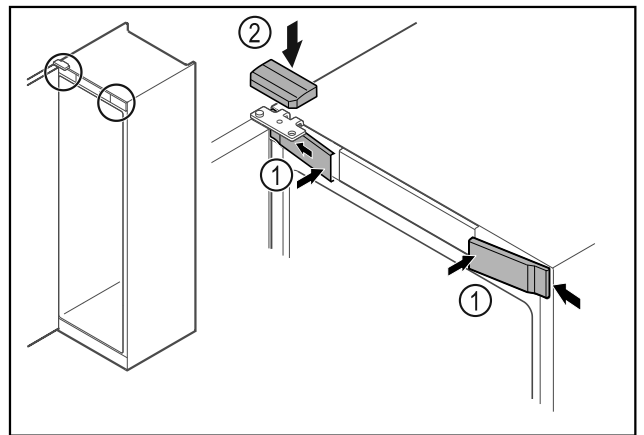

Fig. 67
- ▶ Hook in the front covers Fig. 67 (1) on the side and snap them into place.
- ▶ Snap on the top cover Fig. 67 (2) from above.